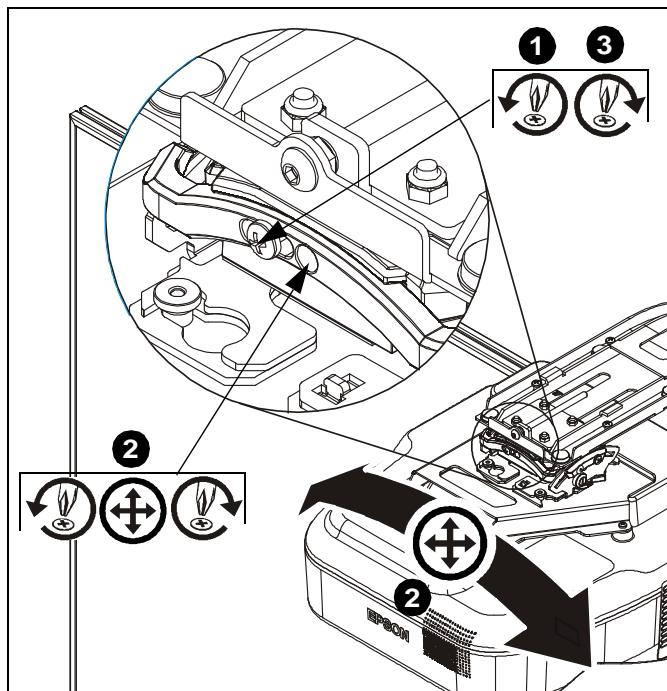

Figure 13
1. Loosen **ROLL** adjustment locking screw using a #2 Phillips screwdriver. (See Figure 13)